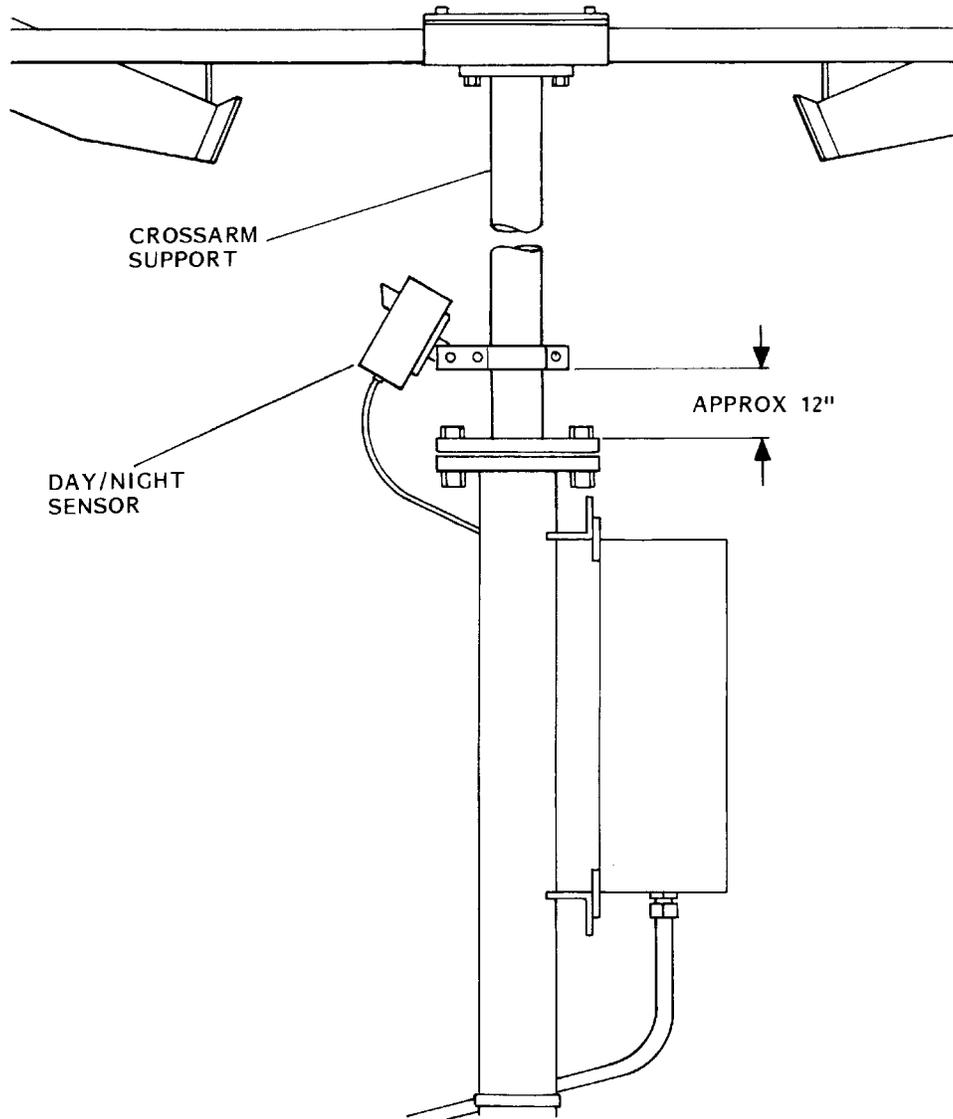

Figure 6.2.3. Day/Night Sensor Installation
6.2.2.6 **Day/Night Sensor.** The day/night sensor is installed by feeding the day/night heater and signal wires through the support columns, attaching the sensor ground and cable connections, and mounting the day/night sensor to the crossarm support such that the day/night sensor is pointed 6 degrees above the horizon (Figure 6.2.3). This installation procedure is described in table 6.2.3.